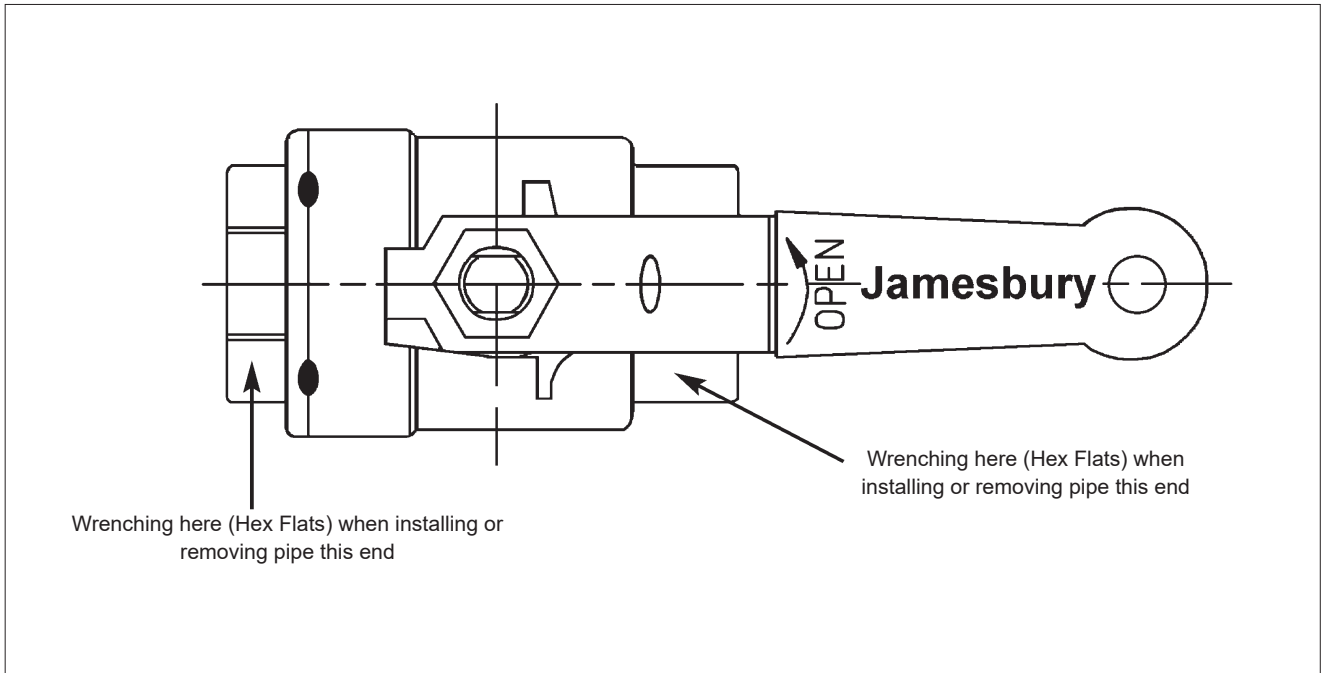

Figure 2.
The valve may be installed in any position and offers tightness in both directions. It is recommended, however, that the valve be installed with the cap (2) towards the tank car. Use standard piping practices when installed valves with threaded parts. When tightening the valve to the tank car, apply a wrench to the end nearest the pipe being worked. (See **Figure 2**) Refer to **Section 4, MAINTENANCE**, for stem seal adjustment. If there is weepage past the stem seals upon installation, it means the valve may have been subject to wide temperature variations in shipment. Leak-tight performance will be restored by a simply stem seal adjustment described in the **MAINTENANCE** section.